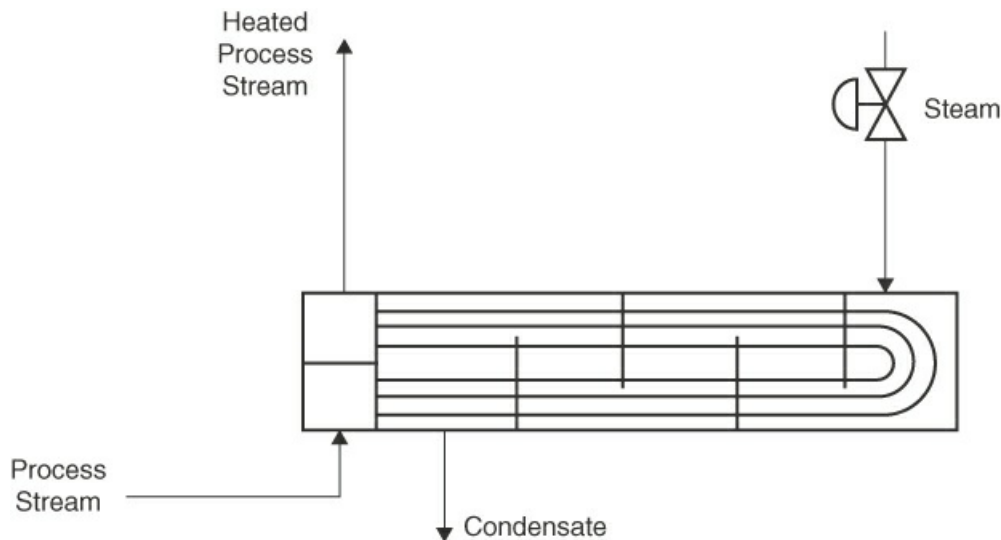

Figure P3.2.14
- **3.2.14** Heat exchangers are used to transfer heat from one fluid to another fluid, such as from a hotter fluid to a cooler fluid. Figure P3.2.14 shows a heat exchanger that transfers heat from condensing steam to a process stream. The steam condenses on the outside of the heat exchanger tubes while the process fluid absorbs heat as it passes through the inside of the heat exchanger tubes. The feed rate of the process stream is measured as 45,000 lb/h. The flow rate of steam is measured as 30,800 lb/h, and the exit flow rate of the process stream is measured as 50,000 lb/h. Perform a mass balance for the process stream. If the balance does not close adequately, what might be a reason for this discrepancy?